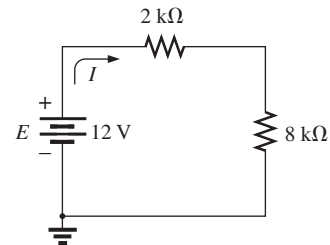

FIG. 5.128
46. a. Determine the current through the circuit in Fig. 5.128.
b. If an ammeter with an internal resistance of  $250\ \Omega$  is inserted into the circuit in Fig. 5.128, what effect will it have on the current level?